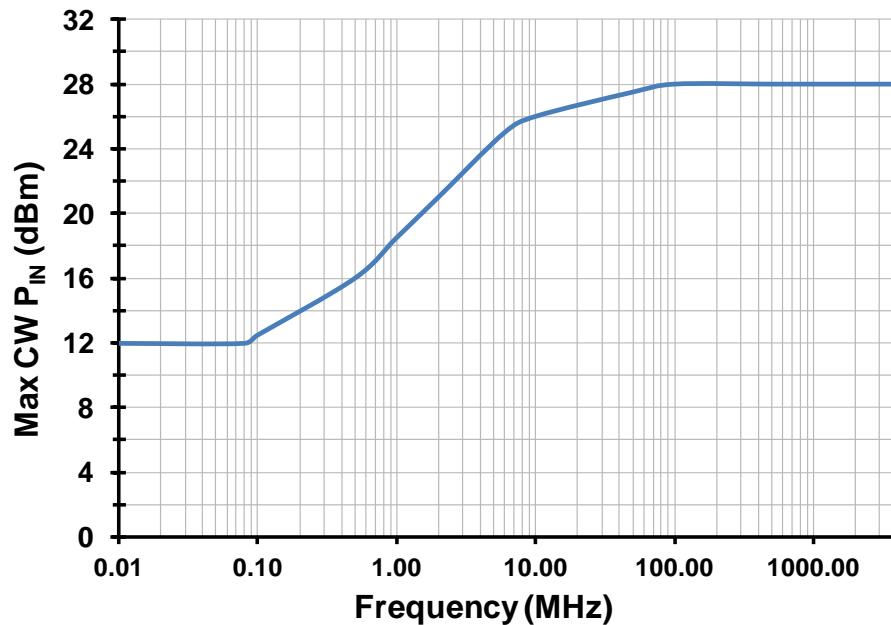

Figure 1. Maximum Operating RF input power vs Input Frequency
| RF CW Input Power | P _{CW} | RF1 or RF2 | | | See Figure 1 | dBm |
- Note 3: The input 0.1dB compression point is used as a linearity figure of merit. The recommended maximum input power is specified as the lesser of the two values from RF CW Power (Figure 1) and the RF Average Power (Recommended Operating Conditions Table).